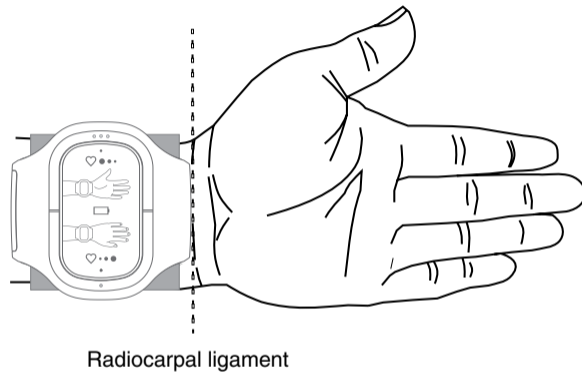
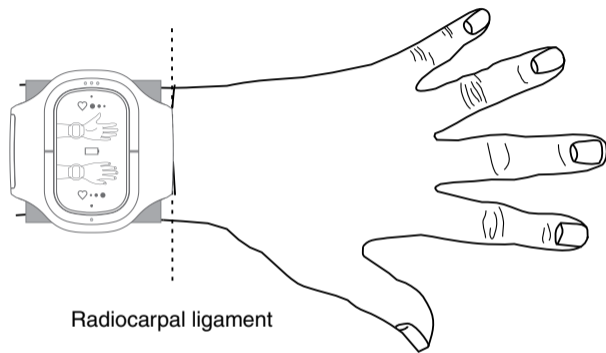

Fig.2. The inner wrist zone
Fig.3. The outer wrist zone
6.2. The device uses two automatic electric current programs for course exposure on human wrist areas (see Fig.2 and Fig.3) with various frequencies.
Exposure on the inner wrist zone (see Fig.2) located on the internal side of the left wrist (the distal third of left forearm) is made to decrease blood pressure.
Apply the device to the left wrist so that the orange coloured hand symbol is on the top of the device's screen. Fix the device at the left wrist so that right rim of the electrostimulator is positioned in parallel to skin fold in the radiocarpal joint area (see Fig.2).
Exposure on the outer wrist zone (see Fig.3) located on the external side of the left wrist (the distal third of left forearm) is made to increase blood pressure.
Apply the device to the left wrist so that the blue coloured hand symbol is below. Fix the device at the left wrist so that right rim of the electrostimulator is positioned in parallel to skin fold in the radiocarpal joint area (see Fig.3).
Exposure area: inner wrist zone (Fig. 2).
Exposure area: outer wrist zone (Fig.3).